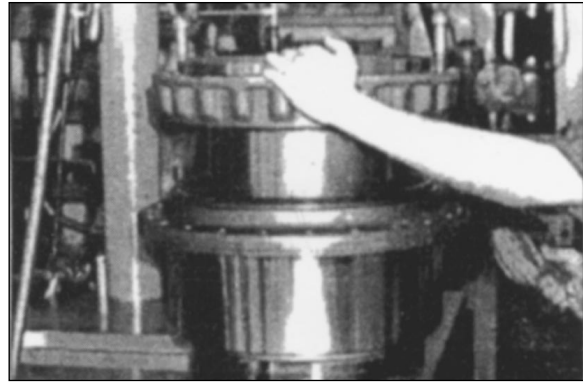

Figure 99
8. Install hub to housing. Figure 99.